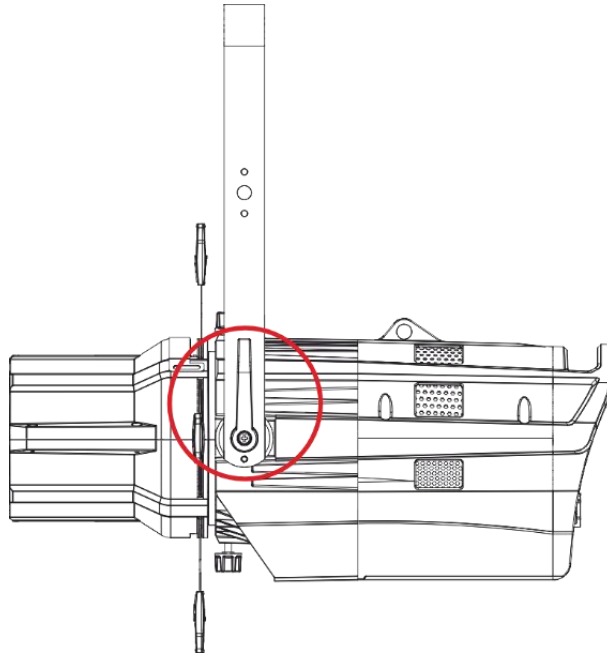

Fig. 07
- 01) Turn the **adjustment handle (05)** counterclockwise to loosen it (see Fig. 07).
- 03) Turn the **adjustment handle (05)** clockwise to tighten it. Make sure that the device cannot move freely after the **adjustment handle (05)** is tightened.